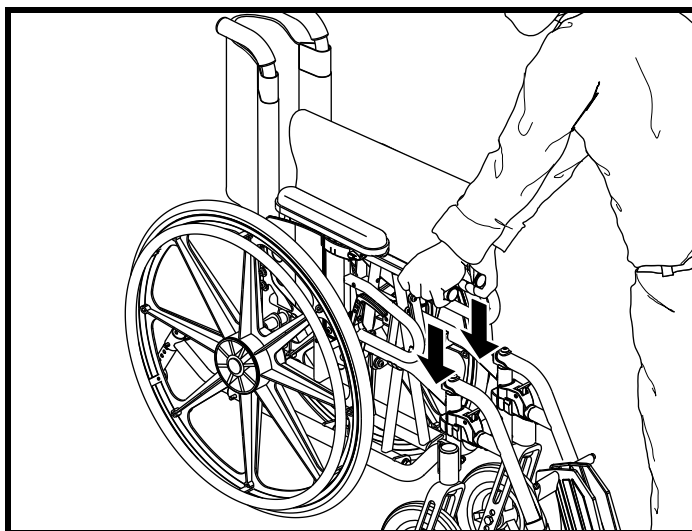

Figure 7. Unfolding the Litestream XF LTD RQ
2. Place the palms of your hands on each seat base rail. See figure 7.
3. Hold the seat base by the center at the front and at the back. See figure 7.